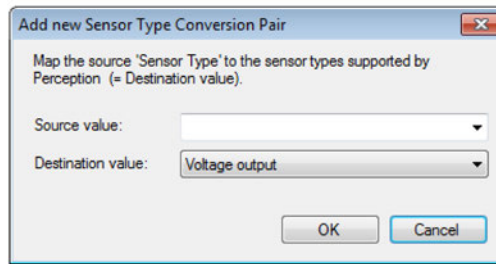

Figure 3.9: Add new Sensor Type Conversion Pair dialog
- 3 The following dialog appears (see Figure 3.9):